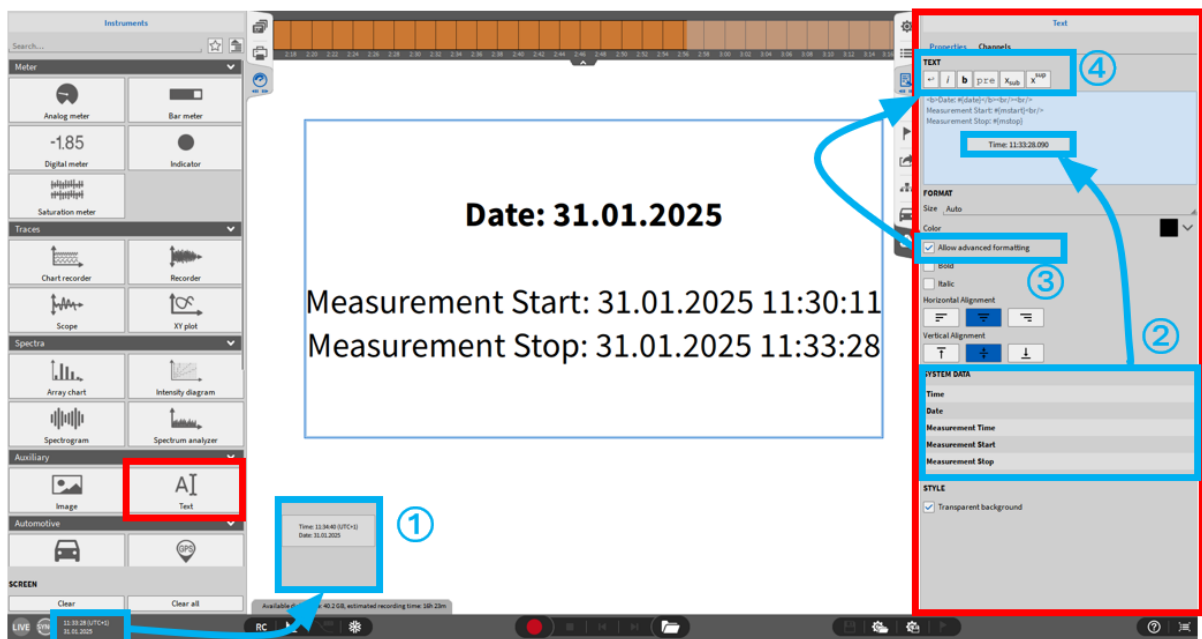

Fig. 8.35: Text instrument – overview
the *Color* square to bring up the color selection palette. The style can be adjusted to **Bold** and *Italic*. Furthermore, the horizontal and vertical alignment can be changed. The advanced text formatting options (see ④ in Fig. 8.35) for formatting only certain words or characters instead of the entire text must be activated via the checkbox (see ③ in Fig. 8.35).
1. The time and date display in the lower left corner can directly be dragged and dropped on the measurement screen (see ① in Fig. 8.35). A Textbox will be created automatically with the according time and date.
2. In the instrument properties the time, date and measurement time can again dragged and dropped into the text field (see ② in Fig. 8.35) or be added with a double click on the respective element.